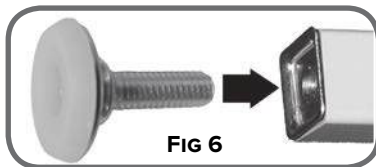

FIG 6
1. Place chair on side and install four (4) **Glide Feet** in threaded holes on the bottom of the **Chair Frame** (FIG. 6 & 7).
5. Lift & Tip the end of the Safety Cover (**FIG 5-E**): Lift end with large opening up first, then slide cover back to clear bolt cap (**FIG 5-F**) – Raise Safety Cover on bolt cap end and slide along square arm tube to remove (**FIG 6-G**)